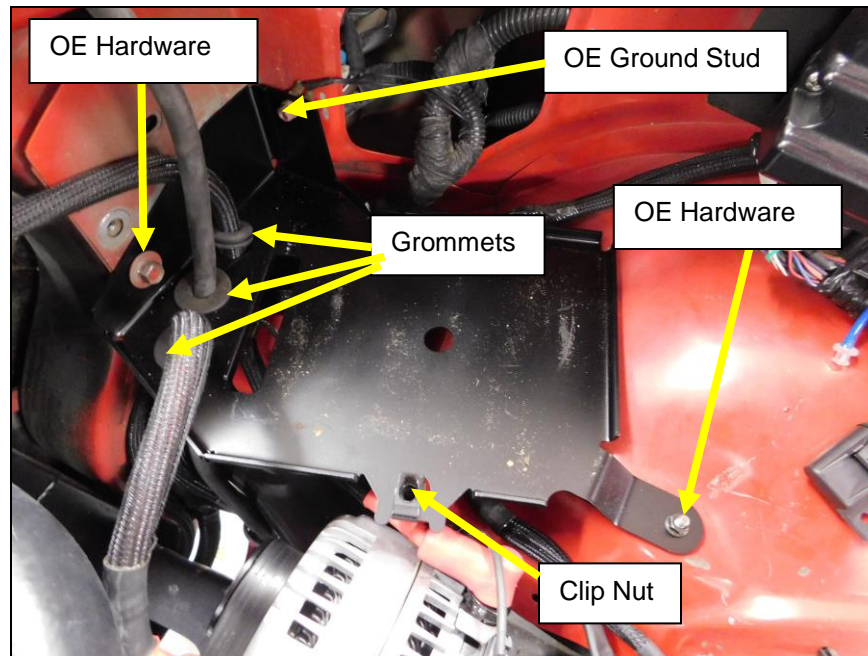

Figure 1
3. Install BHS576 Battery tray using the OEM hardware from the Air Intake Box and Ground strap on inner fender (**Figure 1**).
4. Install the provided rubber grommets into the battery tray- * these are necessary if the battery cables are running through the battery tray to prevent damage to the battery cables and wiring. **Fig. 1**